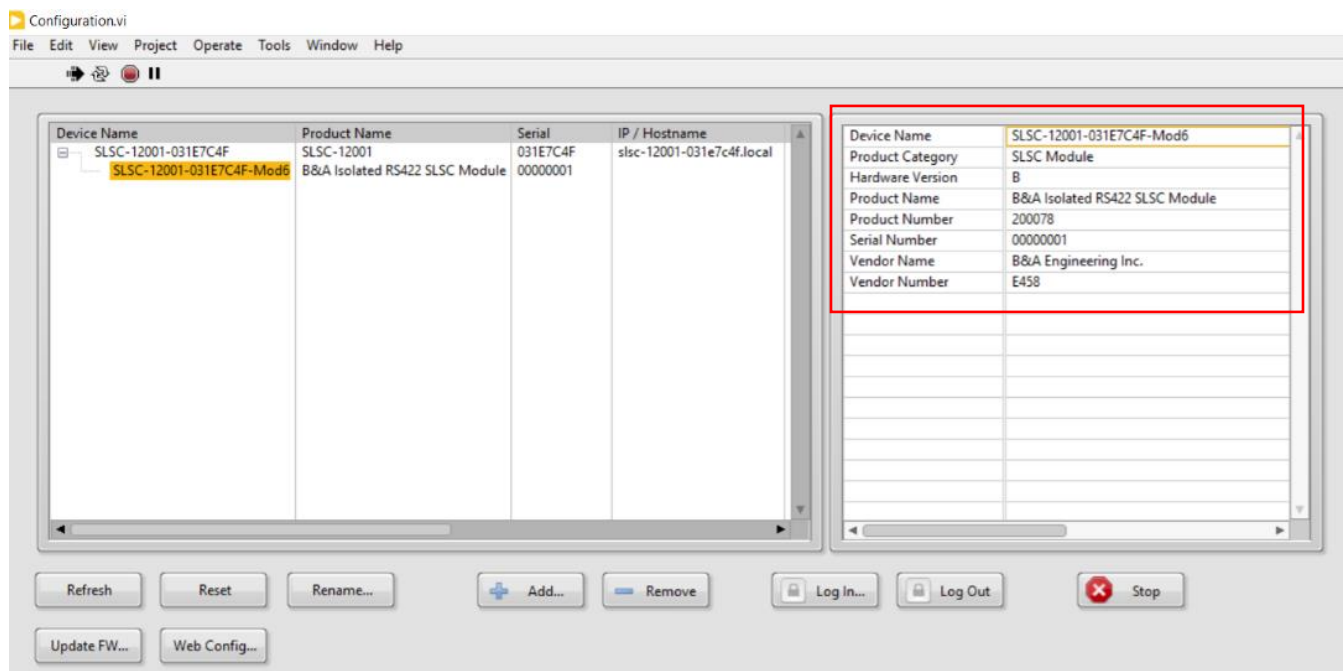

Figure 11. Configuration Information Sample
- 5) A sample of the configuration information is presented in Figure 11.